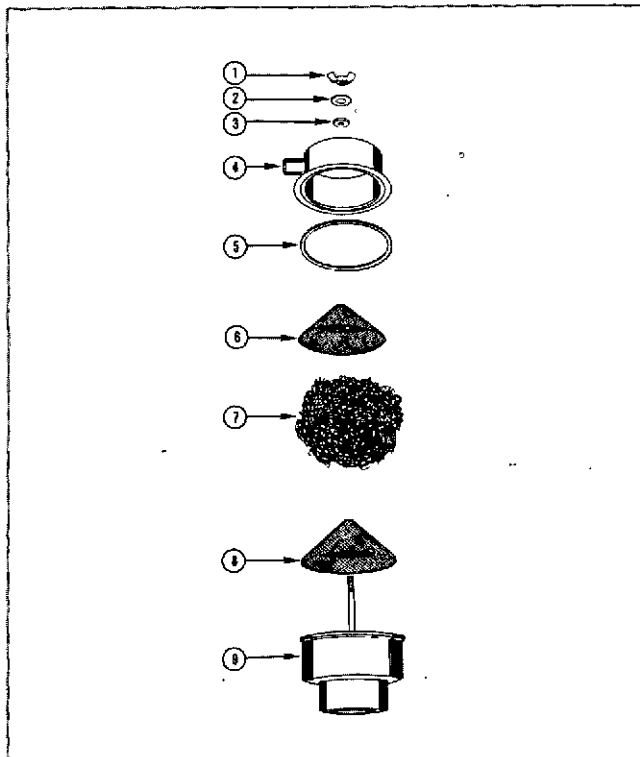

Fig. 3-3-1, V40310. Crankcase breather—mesh element
The mesh element-type breather, Fig. 3-3-1, is used on all engines. The body is pressed into the cylinder head cover.
1. Remove wing nut (1, Fig. 3-3-1), flatwasher (2) and rubber washer (3) securing cover (4) and element assembly to breather.
2. Lift off cover, gasket (5), upper screen (6), mesh element (7) and lower screen (8) from body (9).
1. Position lower screen (8, Fig. 3-3-1) into breather body (9).
2. Position new or cleaned element (7) and upper screen (6) over center screw in breather body.
3. Place cover (4) on body with gasket (5) in position.
4. Install rubber washer (3), flatwasher (2) and wing nut (1). Tighten securely.